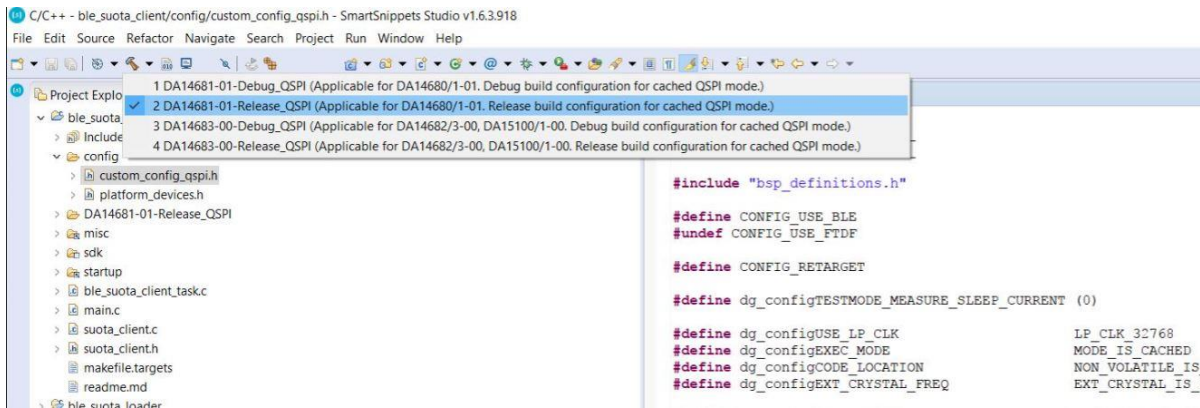

Figure 56: Building ble\_suota\_client
- Build the project ble\_suota\_client (See Figure 56).